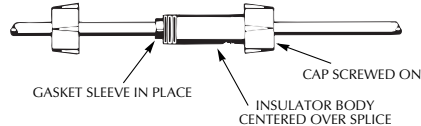

FIGURE 10
- G. Center insulator body over splice and slide neoprene sleeves into body as far as they will go. Screw caps onto insulator body (Figure 10) and tighten by hand for a strong, waterproof splice.